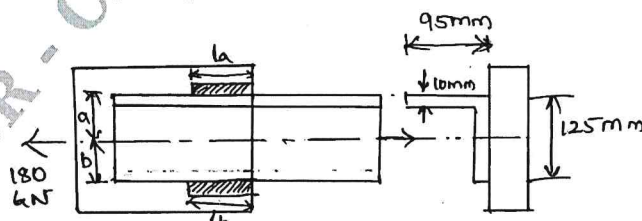

Fig.Q8(b)
- b. A  $125 \times 95 \times 10\text{mm}$  angle shown in Fig.Q8(b) is jointed to a flange by the two parallel welds along the edges of 125mm length. The angle is subjected to a load of 180kN. Find the length of the weld if the permissible load per mm weld length is 430N. (11 Marks)